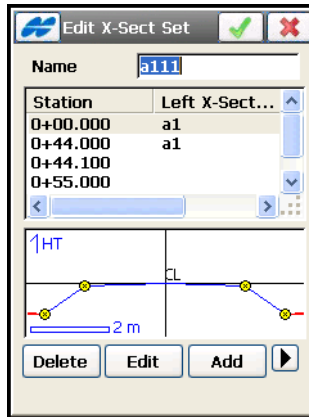

Figure 7-29. Edit X-Section Set Parameters
- **Edit** – opens the *Edit X-Sect Set* screen, displaying properties of the selected cross section set (Figure 7-29).
The *Edit X-Sect Set* screen (Figure 7-29) contains a list of stations where cross sections are applied, and a scaled plot of a cross section at the highlighted station.